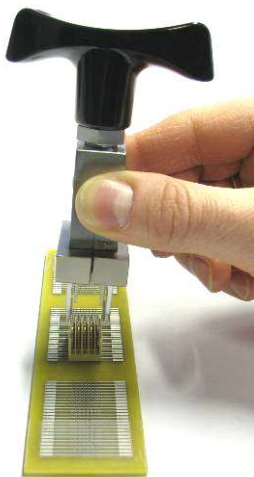

Figure 12
2. Now the removal tool is fitted onto the connector from above, until the detents snap into the sides of the connector (see figure 12, 13 and 14).